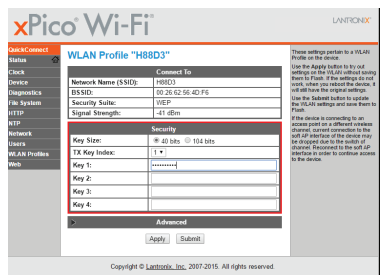

Figure 11: Wi-Fi Network Key
**Note:** Keys are case sensitive. Click on the Submit button. See Figure 11.